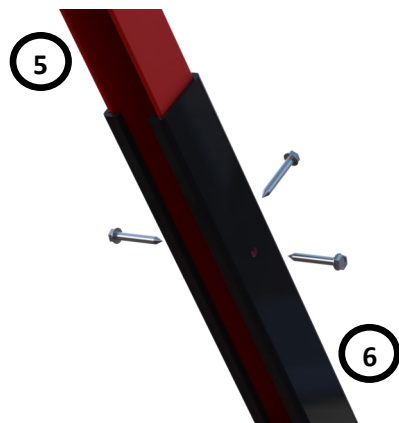

Figure 5
6. Secure every Rear Leg Slider, shown in **RED**, to every Rear Leg with three (3) Self Drilling Screws as shown in *Figure 5*.